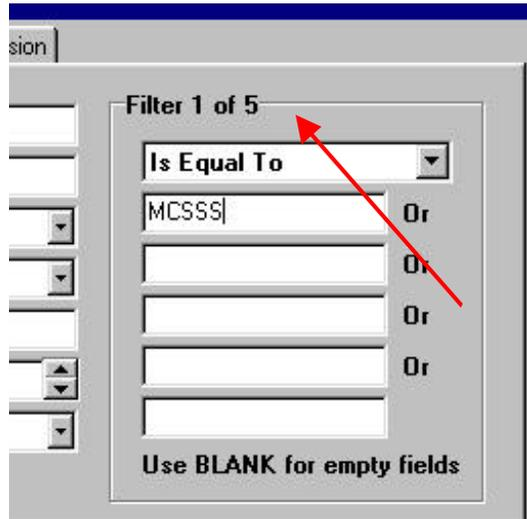

Figure 10.
Step 2: Ensure that you start in Filter 1 of 5. (see Figure 10.) Use arrow keys to change between filters within the same field (Up & Down) and between the fields themselves (Left & Right).